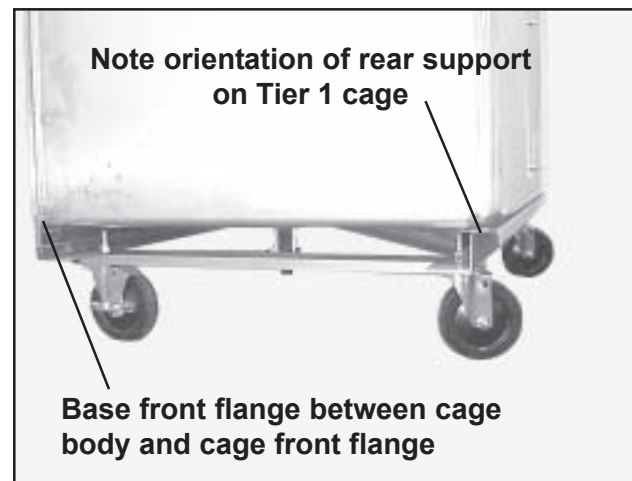

Figure 23. Placing the Cage on the Base (SSCI Mobile Base shown)
2. Place the cage on the base so that base front flange fits between the cage body and the cage front flange (Figure 23, 24, and 25). The fit will be fairly tight and you may have to force the cage down slightly to align the holes properly. The rear of the cage will overhang the back of the base slightly.